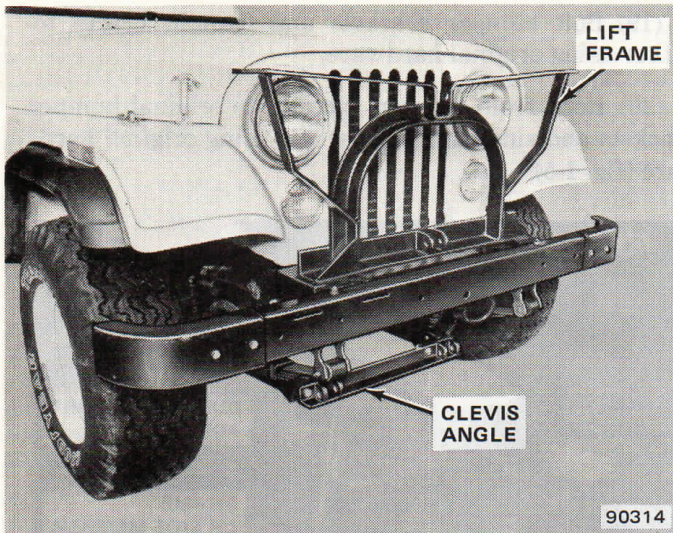

Fig. 1-3 Lift and Mounting Frame Installed—CJ Models
- (6) Attach clevis frame to sidemembers.
- (7) Install lift arm to lift frame.
- (8) Install original bumper (fig. 1-3).